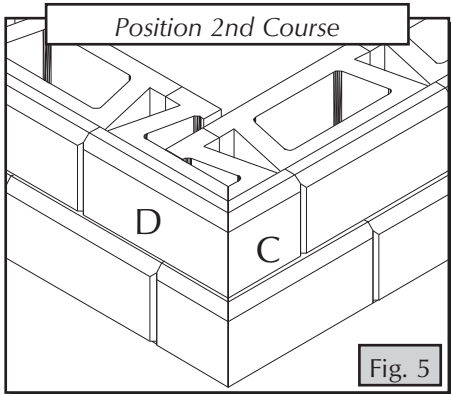

Fig. 5
- Position the cut blocks on 2nd course as shown (Fig. 5), offsetting the joints between blocks. Although a minimum block length of 7.5 in. (19.1 cm) is recommended, perfect running bond is not necessary.